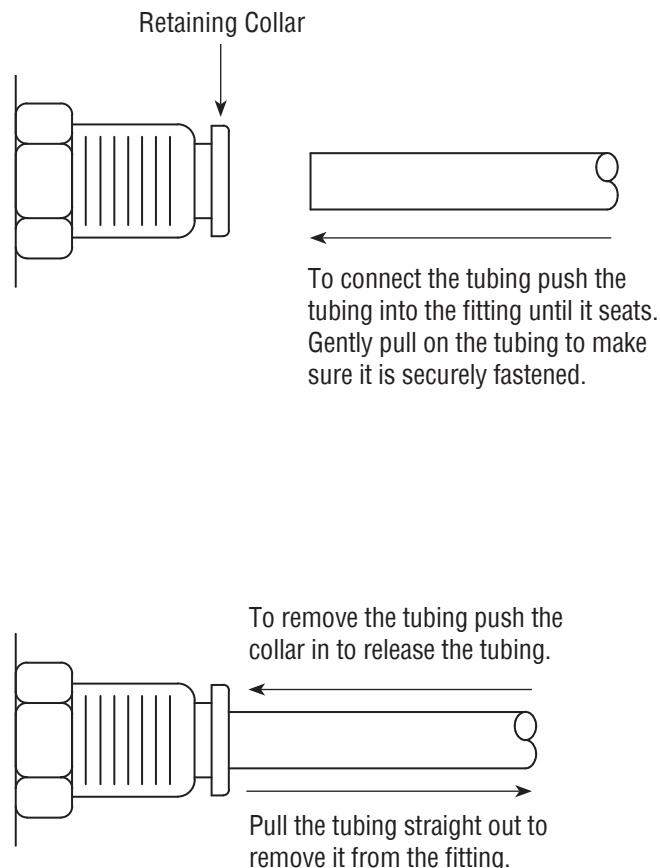

Figure 5
7.2 | Tube-Lock Fittings – Figure 5